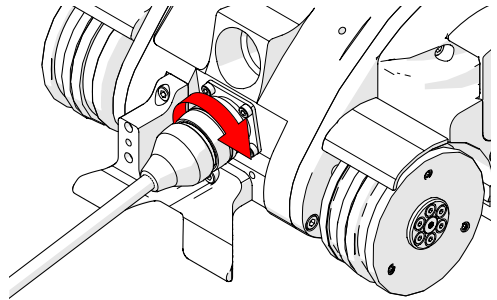

Fig. 58 - Align with crawler's umbilical mount
2. Twist the umbilical's sleeve clockwise locking the umbilical in place (*Fig. 58*).